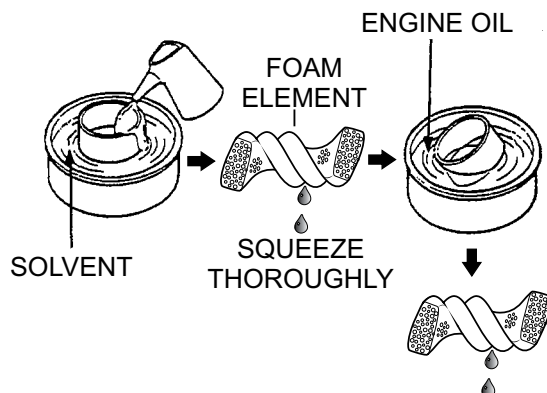

Figure 34. Cleaning Foam Element
2. Clean foam element (Figure 34) in warm, soapy water or non-flammable solvent. Rinse and dry thoroughly.